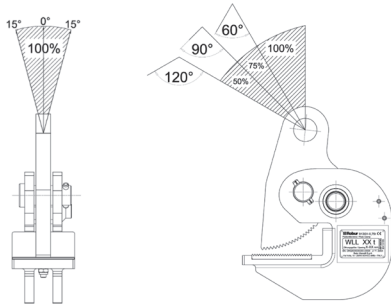

Fig. 8
**⚠ CAUTION:** In the case of angled lift, the load capacity must be reduced according to the diagram in Fig. 8.